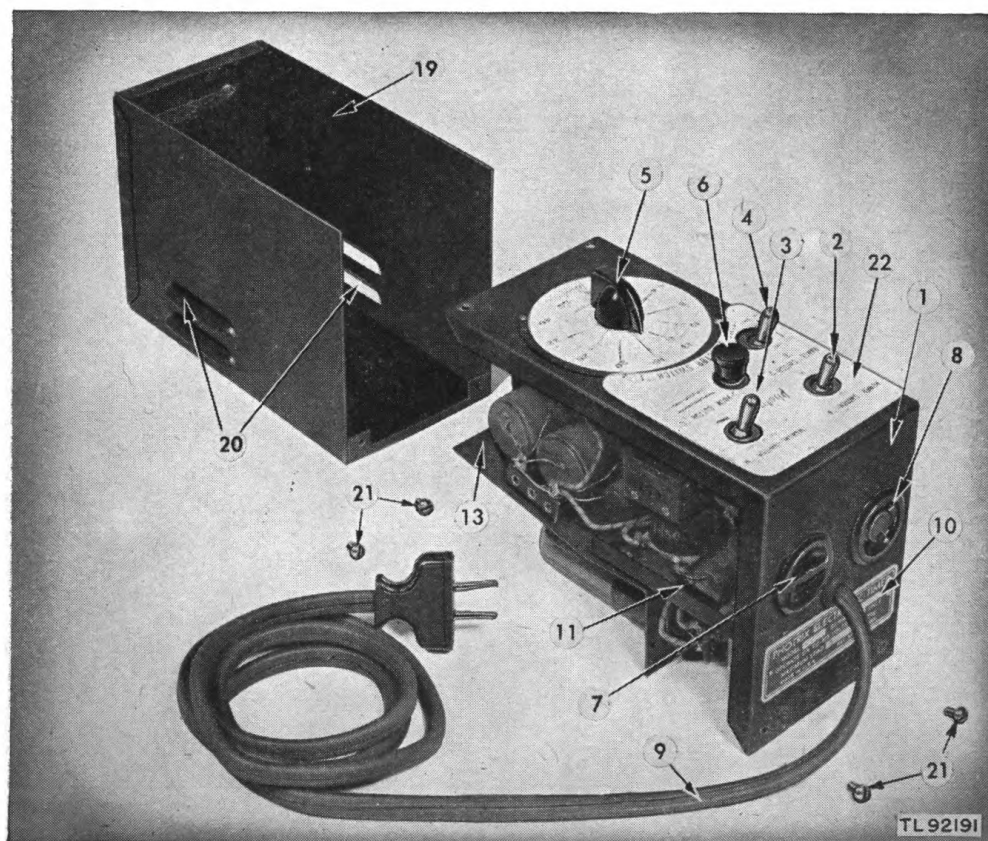

Figure 2. Chassis with case removed.
The electronic timer, Photrix model 1528, is a compact timing device designed to control the exposure time of photographic printers, enlargers, or other photographic equipment by regulating the length of time of current flow to the equipment. The unit is $6\frac{1}{2}$ inches long, $3\frac{3}{4}$ inches wide, and $5\frac{1}{2}$ inches high. It weighs approximately $3\frac{1}{2}$ pounds. It is sturdily constructed and will handle loads up to 1,500 watts. The timer operates on 115-volt, 50-60-cycle, alternating current and consumes approximately 30 watts in its functional operation. A time-selector switch provides 24 time intervals from $\frac{2}{10}$ second to 55 seconds in two ranges of 12 steps each. A control-identification card fits loosely over the switches to help familiarize the operator with the controls. (See figs. 2 ② and 5 ②.)
2. Detailed Description (figs. 2, 3, and 4)
a. CHASSIS. The chassis ① consists of the top and rear panels and a subpanel. All functional parts of the unit are contained in this chassis assembly.
(1) *Top panel* (fig. 2). The top panel incorporates all the controls of the timer. The POWER SWITCH ② for turning on the timer, and the MANUAL SWITCH ③ used for making exposures longer than those provided for by the timer, for lighting the equipment, for focusing, or other manipulation, are located on the rear of the top panel. The RANGE SWITCH ④ for selecting the long or short range of the TIME SELECTOR SWITCH ⑤ is on the left of the rear section of the top panel; the PUSH BUTTON SWITCH ⑥ for making the exposure, is in the center of the rear half of the top panel. In the center of the front part of the top panel is the timer selector switch ⑤, the pointed knob of which can be turned to any position of the 360° dial which is calibrated in two ranges of 12 click positions each. The inner, or short-range calibration provides exposure from $\frac{2}{10}$ second to $2\frac{3}{4}$ seconds; the outer, or long-range scale provides exposures from 4 seconds to 55 seconds.
(2) *Rear panel* (figs. 2 and 3). Two receptacles are mounted on the rear panel: receptacle J1 ⑦, a standard type for plugging in the printer or enlarger to be operated; and the four-hole receptacle J2 ⑧, utilized when operating the timer by remote control. The 5-foot power cord ⑨ and the manufacturer's nameplate ⑩, showing model number, voltage, and maximum controllable load, are also on the rear panel. The lower section of the panel is pierced by a 2-inch louvre to provide ventilation. Two supports ⑪, welded to the inner surface of the rear panel and extending forward, support the filament transformer ⑫ and the subpanel ⑬.
b. CASE (fig. 2). The case assembly ⑲ consists of the two side panels, which have louvres ⑳ for ventilation, the bottom, which is made with the sides from one piece of sheet metal, and the front panel, also louvred and welded to the sides and bottom. The case is drilled and tapped for four $\frac{5}{32}$ machine screws ㉑. Two of these machine screws screw into the case through holes in the front of the top panel; the other two enter through the bottom of the rear panel. The case, when attached to the top and rear panels of the chassis assembly, completely incloses the unit.
Since the timer is ready for use when unpacked, the only preparation needed before actual operation is to test the equipment. Plug power cord ⑨ into a 115-volt, 50-60-cycle, a-c receptacle. Throw power switch ② to the ON position. Throw range switch ④ to the SHORT RANGE position, and turn selector switch ⑤ to $\frac{1}{10}$ second. Plug cord from enlarger or other equipment into standard output receptacle J1 ⑦ (fig. 2) on rear panel of timer. After the tubes have warmed sufficiently (approximately 30 seconds) push the push-button switch ⑥, and observe the enlarger lamp to see if the exposure duration is approximately $\frac{1}{10}$ second. Shift the selector switch ⑤ to various stops and test again. Test to see if enlarger or printer lamp burns continually when the manual switch ③ is thrown to the rear (ON). Shift the range switch ④ to the long range position, and actuate the timer at various selector switch settings; check to see if the exposure periods vary in accordance with the readings on the selector-switch dial. No damage will be done to the timer if the wrong switch is thrown or two switches operated at the same time, but an erratic exposure in that particular instance may result.
5. Direct Operation (figs. 2 and 5)
a. The design of the timer makes it available for use either directly by use of the push-button switch ⑥, or by remote control from a foot switch or the platen switch of a contact printer. For direct operation no attachments are needed. Connect the timer as follows:
(3) *Connecting timer to printer* (fig. 2). Connect timer to power supply. Remove four-pin plug from four-hole socket on printer, and insert plug into remote-control receptacle ⑧ on rear panel of the timer. The plug will enter the receptacle only when the large pins are fitted into the large holes. Turn shading switch of printer to OFF position. Throw manual switch ③ of timer forward into NORMAL position. Throw power switch ② of timer into ON position. Set timer to desired time interval. Insert negative and sensitized paper into printer and close platen. The timer will turn printing lights on and off automatically.
(4) *Manual operation of printer*. To operate the printer without the automatic timer, withdraw four-pin plug from remote-control receptacle ⑧ on rear panel of timer. Insert the plug into the four-hole socket mounted on the printer. The timer can then be removed for use elsewhere and the printer operated manually.